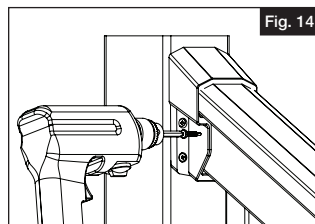

Fig. 14
- b. Pre-drill one side (outside of the stair rail installation) of the top rail bracket with  $\frac{1}{8}$ " drill bit. Hole should be oriented as shown (Fig 14). Drive #10 x 1" pan head square drive screw through bracket and rail.